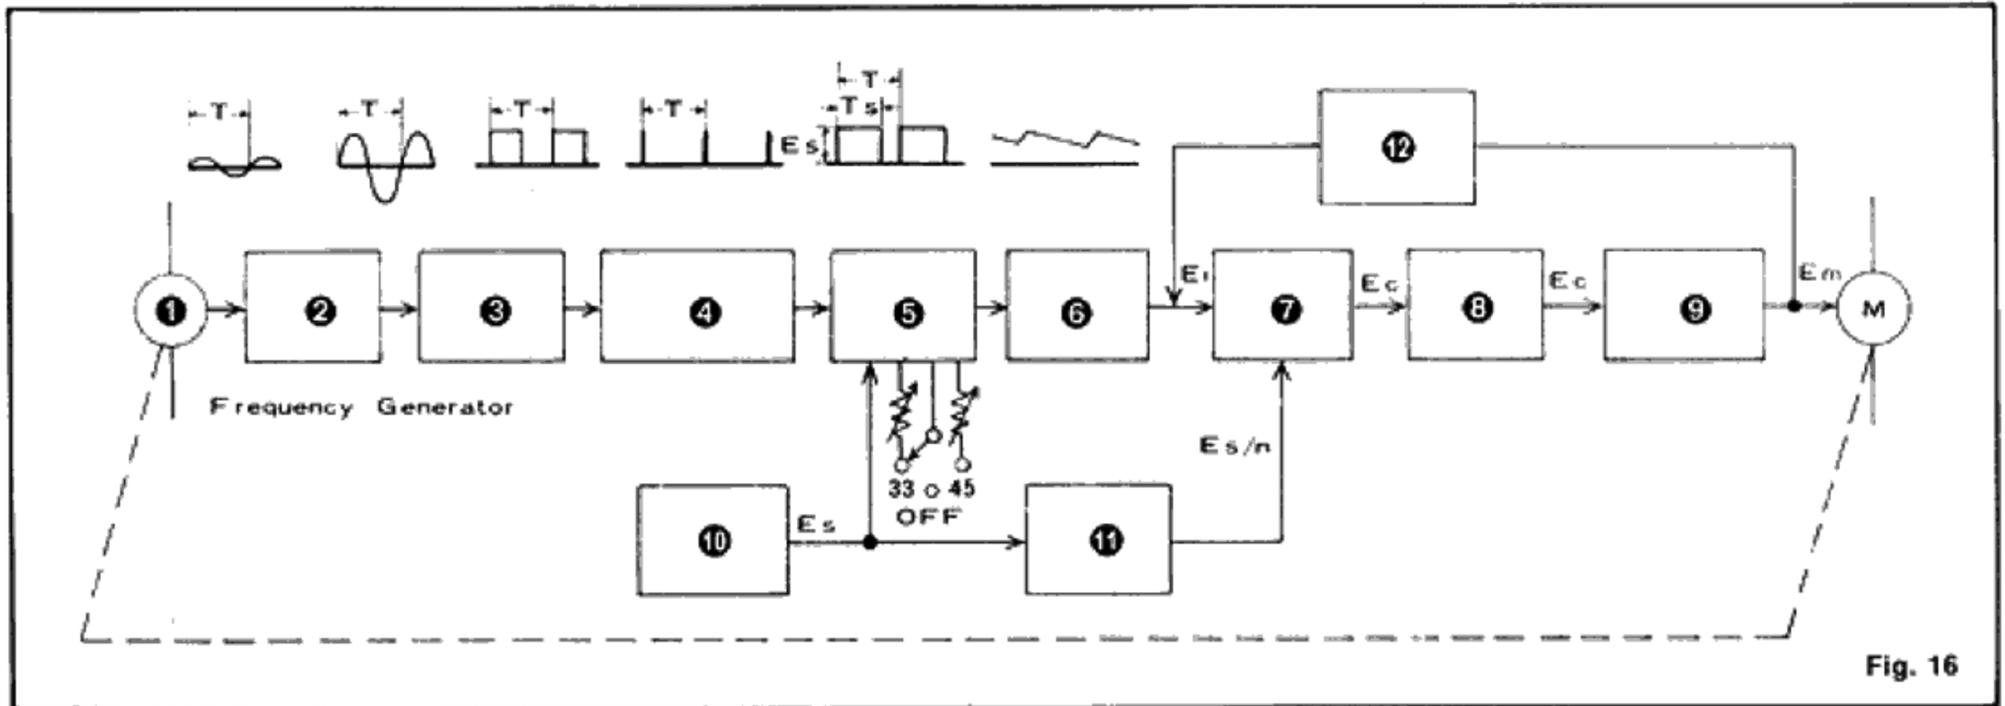

Fig. 16
❶ NEW DESIGN FREQUENCY GENERATOR SERVO CONTROLLED DC MOTOR (See Figs. 16 and 17)
OPERATING PRINCIPLES OF FREQUENCY GENERATOR SERVO MOTOR (FIG. 16)